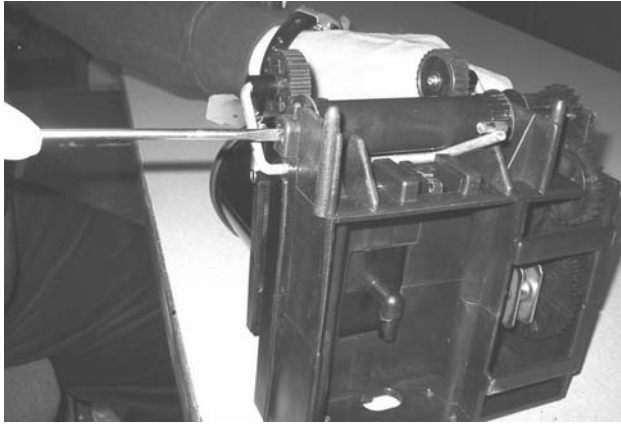
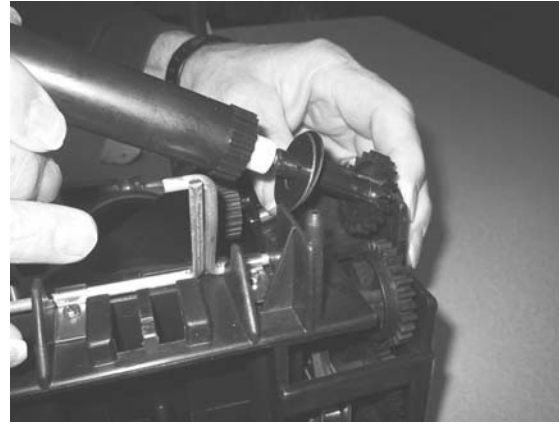

Figure 6
Figure 7
8. Press out the paper shaft drive axle from the front of the housing until the Paper Roller Extrusion Shaft assembly is free to rotate away from the Brewer (Figure 6). Remove the whole assembly (Figure 7).